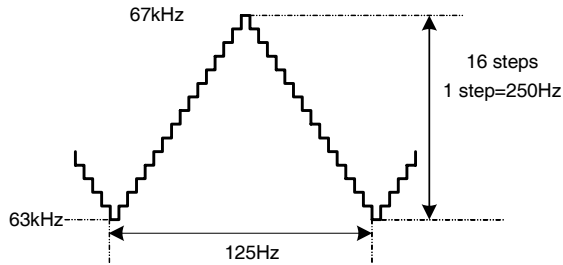

Figure 6. Frequency Modulation
The oscillator frequency is set internally and there is frequency modulation (FM) function to reduce EMI. The average frequency is 65kHz and the modulation frequency is  $\pm 2$ kHz. The frequency varies from 63kHz to 67kHz with 16 steps. A frequency step is 250Hz and FM frequency is 125Hz, as shown in Fig. 6.